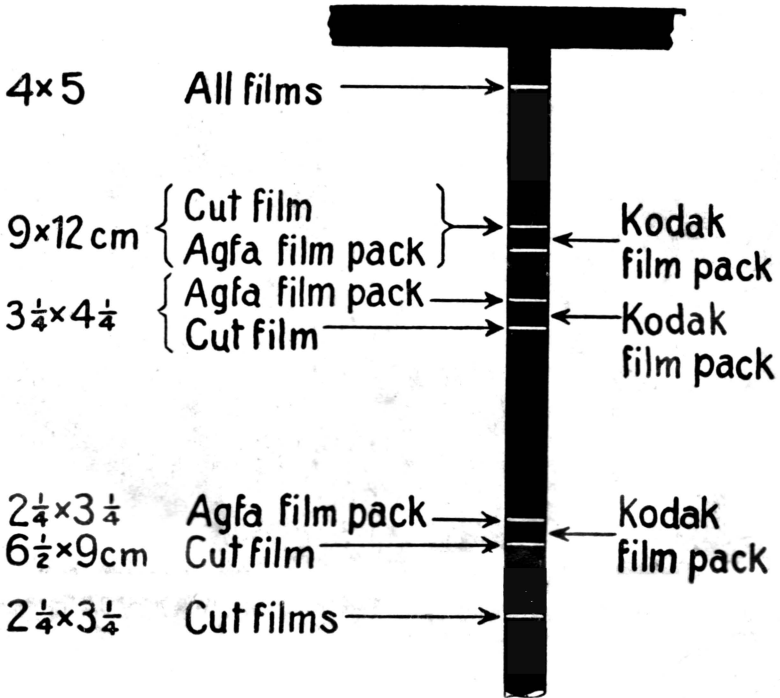

Figure 1
1. Consult figure 1 and select the proper setting marks. These marks will be found on the four rods that the locking screws act on.